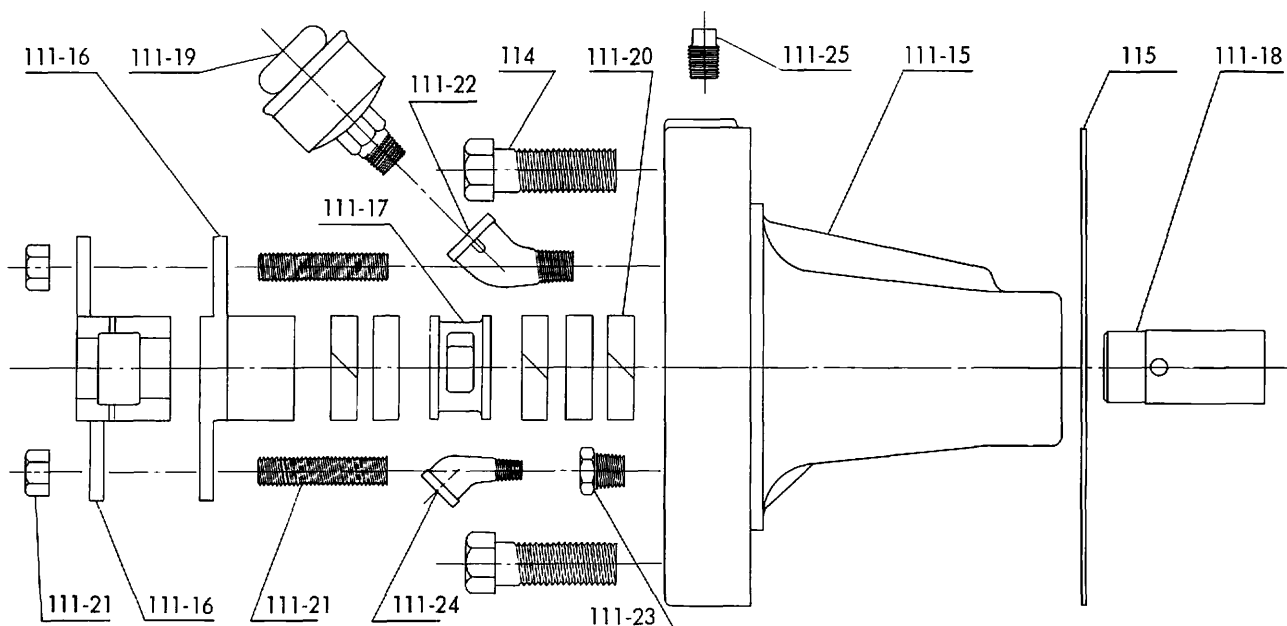

Fig. 30
If a packing box has been furnished, as is the normal case with short coupled open lineshaft industrial equipment, it will usually be shipped assembled in its proper position in discharge head or driver pedestal. Normal packing box assembly will usually include packing container item 111-15, at extreme lower end of which is a bushing or throttle sleeve item 111-18. Immediately above this are assembled a given number of packing rings item 111-20, then a lantern ring item 111-17 positioned so as to allow leakage into proper drain port, then more packing rings and, at the top, a two piece gland item 111-16 which can be removed without disturbing shaft. Ordinarily, a gasket item 115 seals housing flange to head, although an O ring may sometimes be used. Housing is secured in position with capscrews item 114. See Fig. 30.